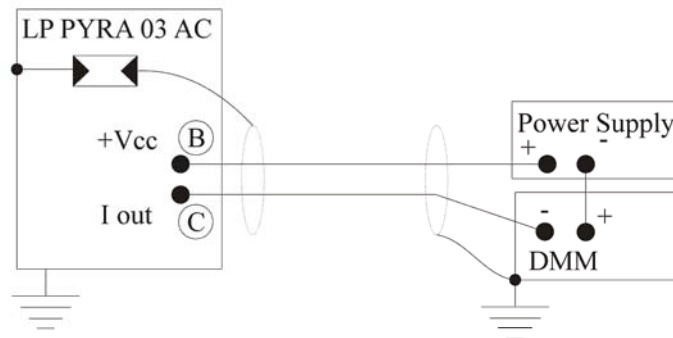

Fig. 5
- LP PYRA 03 AC is to be connected to a DMM and a power supply as show below (Figure 5). To read the signal, the load resistance must be $\leq 500\Omega$